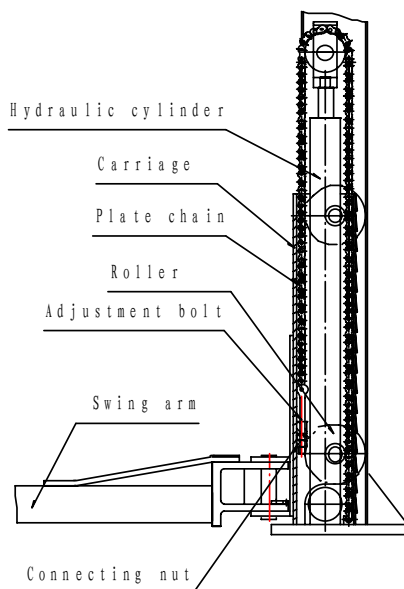

Fig. 6
- Check to see if the connection between hydraulic cylinder and carriage is proper, if the connecting nut between the steel chain and carriage is loose or falling. Refer to Fig. 6.